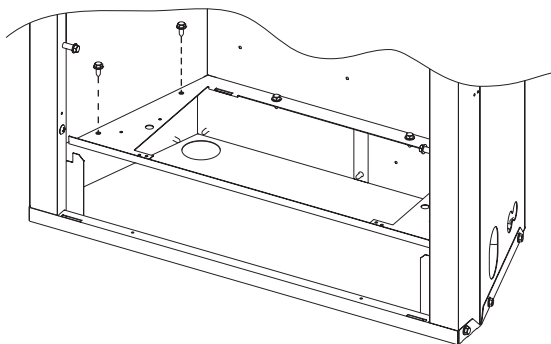

Figure 23
6. Remove two (2) 10 x 1/2" screws on the left side of the firebox bottom. See Figure 23.